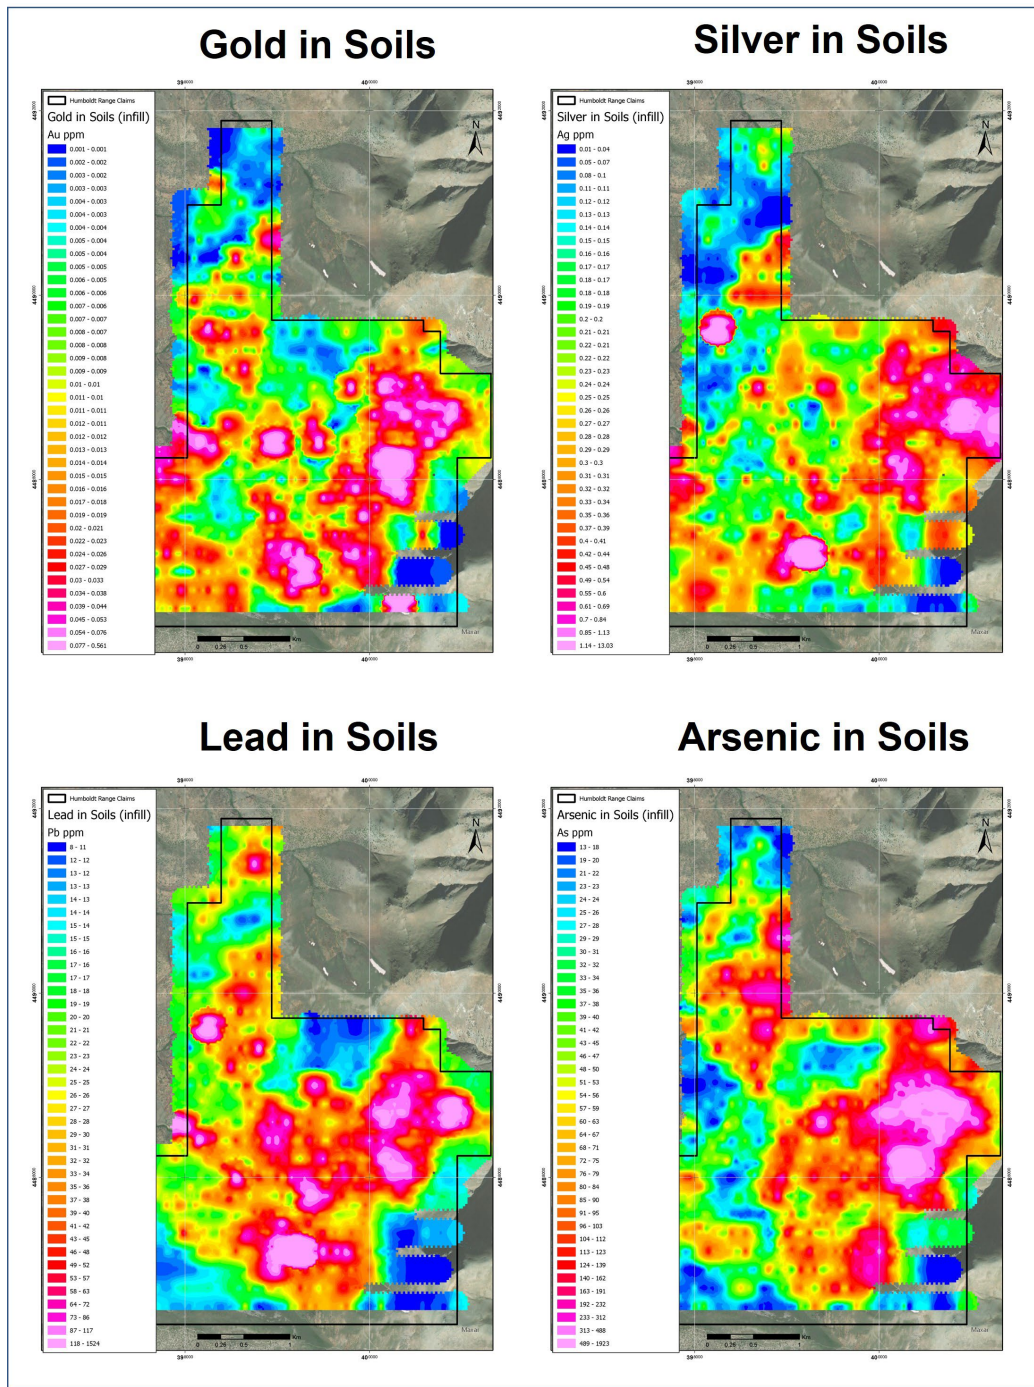

Figure 5. Multi-element geochemical anomalism at Black Canyon claims, Nevada
- The infill sampling also highlights that the large gold anomaly is associated with highly anomalous levels of silver, lead and arsenic, consistent with observations of mineralised samples in the field (Figure 5).